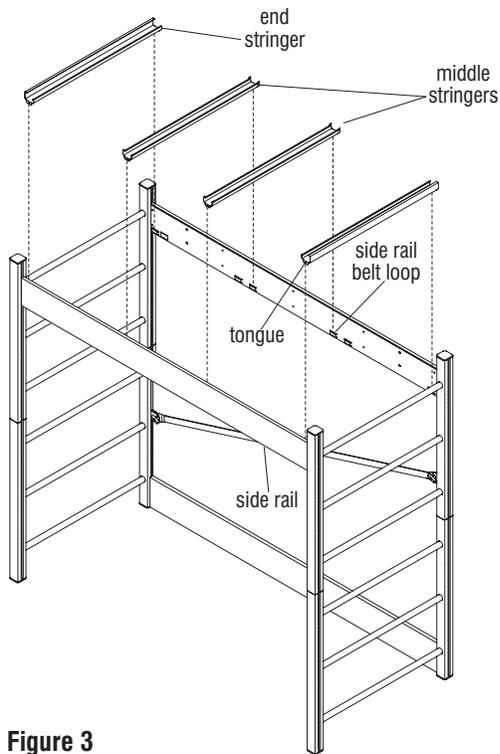

Figure 3
Note: Spring deck bed frame installation is the same for single, loft or bunk beds. Figures 3 & 4 this page illustrate spring deck frame to a loft bed assembly for simplicity. For other configurations, reference page 8 illustrations, or go to page 12 for Hang-On Megasurface Loft Bed configuration.
Caution: Middle stringers for spring bed deck frames are different than those for board deck frames. Assure that your middle stringers match those in figure 3 this page.
1. Position end and middle stringers over installed side rails as illustrated, and insert the tongues of the stringers into the "belt loops" in the side rails. Tap stringers down to secure the stringers in place (Figure 3).